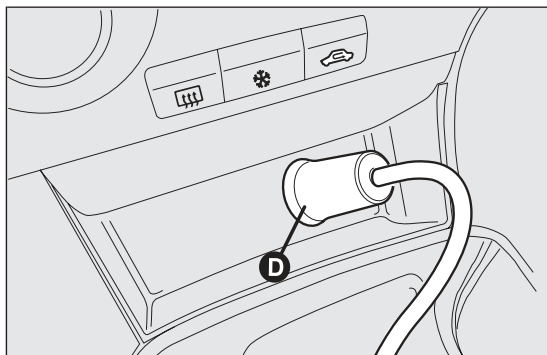
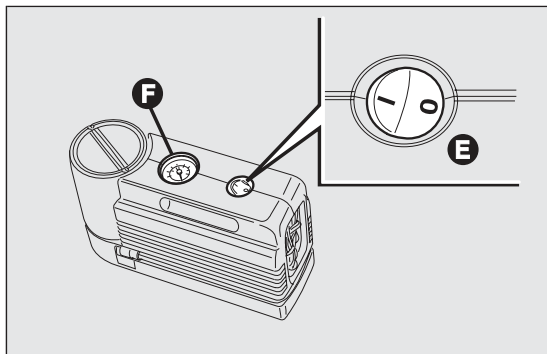

fig. 153
fig. 154
- ☐ make sure that switch E fig. 154 for the compressor is in position 0 (off), start the engine, insert plug D fig. 153 into the cigar lighter socket and switch on the compressor by placing switch E fig. 154 in position I (on). Inflate the tyre to the pressure specified in the "Cold tyre pressures" paragraph in "Technical data" chapter.
Check tyre pressure on pressure gauge F fig. 154 with compressor off to obtain a more precise reading;